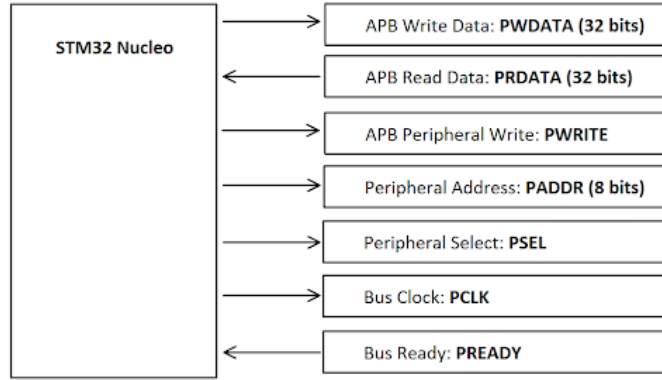

Figure 8: Nucleo diagram.
**Interfacing the APB Bus:** The kit has the APB bus interface shown in Figure 8. The signal names are shown in bold. Read and write cycles are provided on the bottom of the page. PSEL is configured to be "1" when memory locations 0x40002000-0x4000200F are accessed.